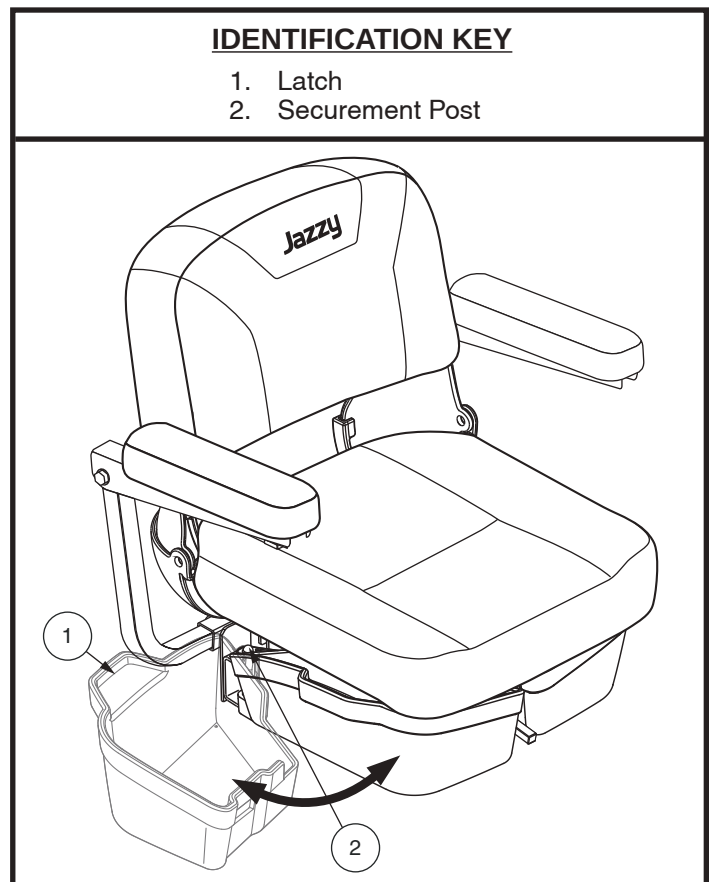

Figure 32. Under-seat Storage
1. Lift up slightly on the latch on the side of the under-seat storage bin (see figure 32) and swing the under-seat storage bin out and away from the Travel Scooter.
1. Lift up slightly on the latch on the side of the under-seat storage bin (see figure 32) and swing the under-seat storage bin out and away from the travel scooter until it is fully open.
2. If equipped, remove under-seat storage. See Figure 32.
7. If equipped, install under-seat storage. **See figure 32.**